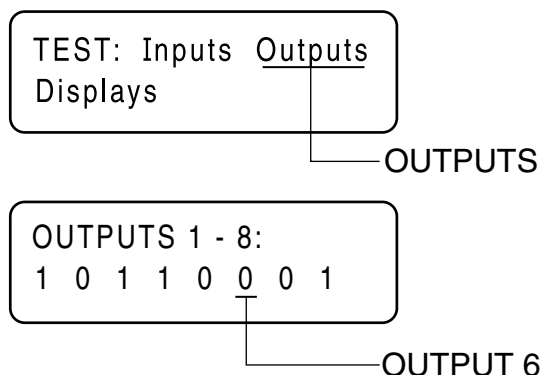

Figure 178. The Output Screens
- a. Digital Output 6 is Wire 56 output from the board. Refer to Figure 178.